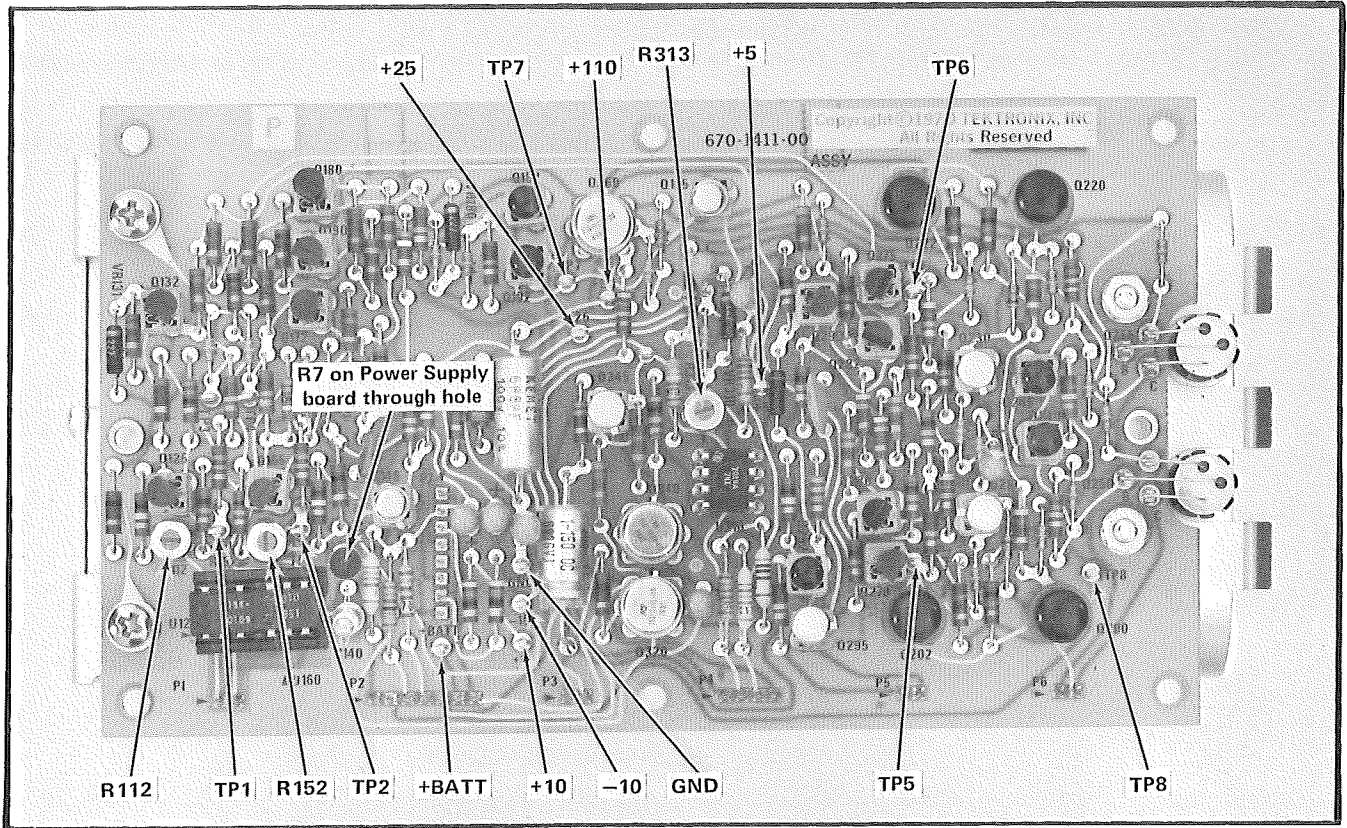

Fig. 5-3. Location of controls and test points.
- a. Monitor TP+110 (see Fig. 5-3 for location) using a Differential Comparator or DVM.
- a. Monitor TP+5 (see Fig. 5-3 for location) using a Differential Comparator or DVM.
- b. Set the 2620 Trig Sens controls (internal adjustments; see Fig. 5-3) fully clockwise.
b. Monitor TP1 (see Fig. 5-3 for location) with Test Oscilloscope and 10X probe.